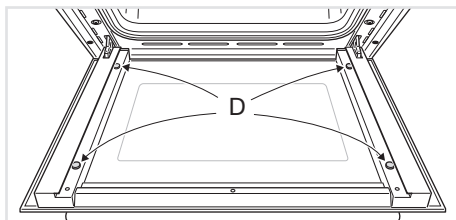

Fig. 5.21
- Check that the four rubber pads are in place ("D" in fig. 5.21).